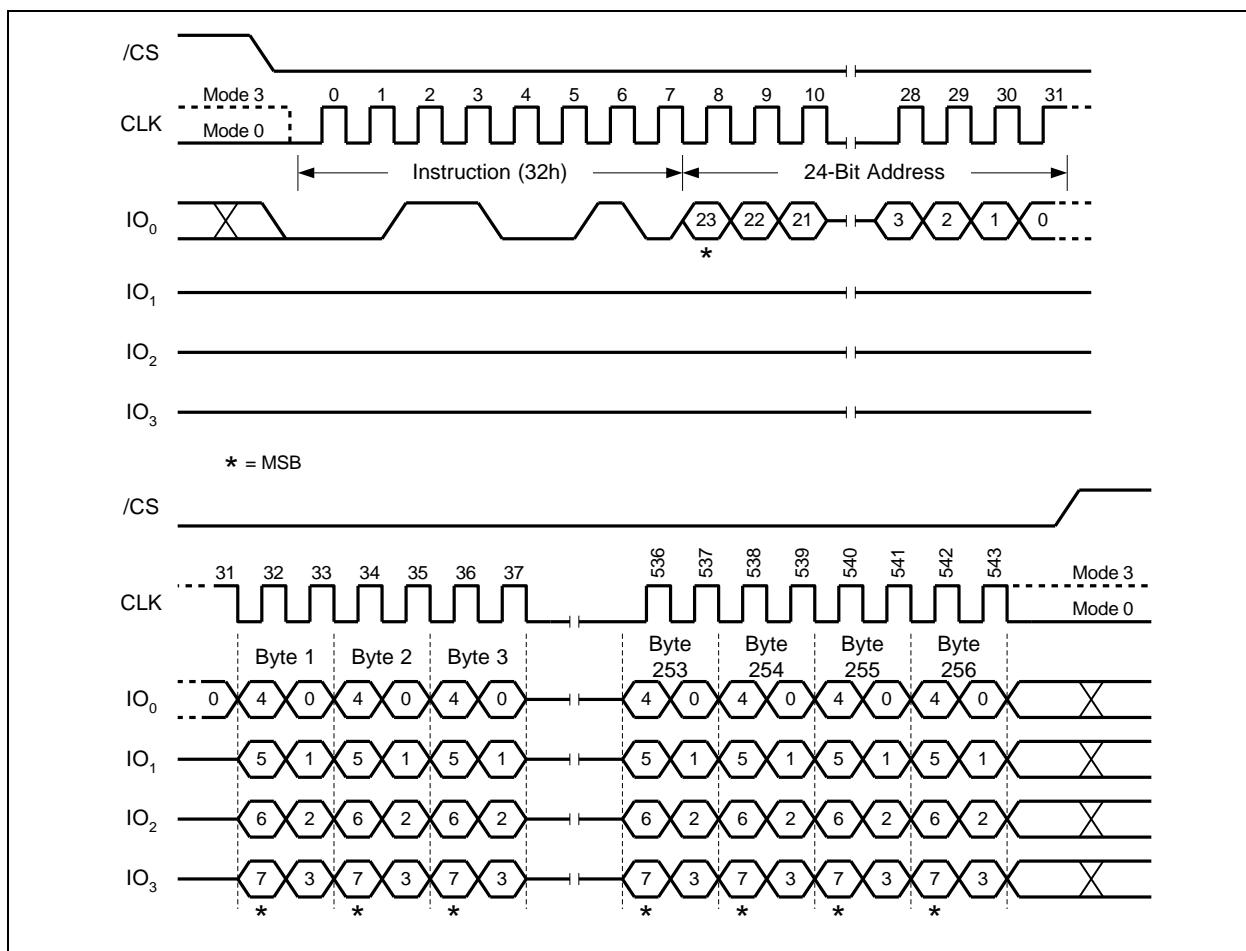

Figure 30. Quad Input Page Program Instruction
B.2.14 To use Quad Page Program the Quad Enable (QE) bit in Status Register-2 must be set to 1. A Write Enable instruction must be executed before the device will accept the Quad Page Program instruction (Status Register-1, WEL=1). The instruction is initiated by driving the /CS pin low then shifting the instruction code "32h" followed by a 24-bit address (A23-A0) and at least one data byte, into the IO pins. The /CS pin must be held low for the entire length of the instruction while data is being sent to the device. All other functions of Quad Page Program are identical to standard Page Program. The Quad Page Program instruction sequence is shown in Figure 30.